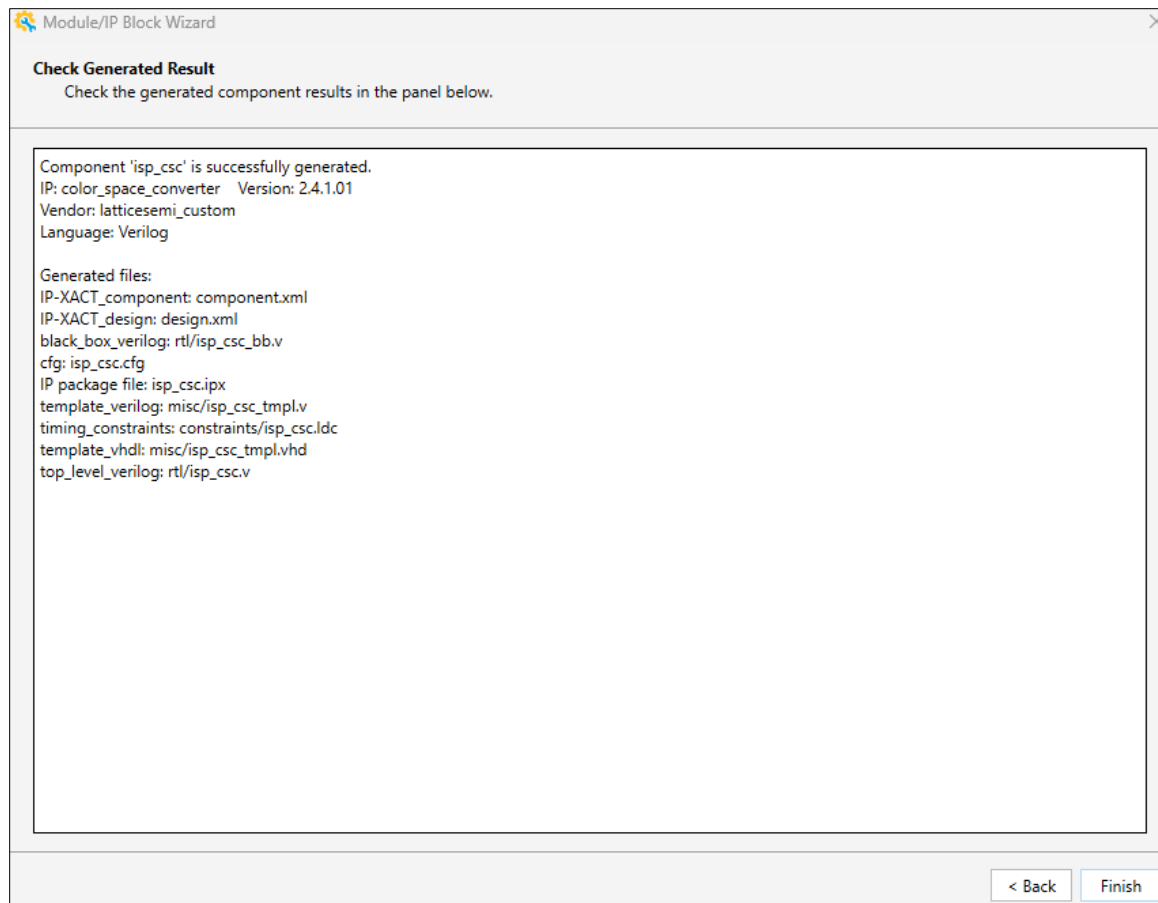

Figure 7.25. Color Space Converter IP Check Generated Result Window
4. After the generation is completed, click **Finish** in the **Check Generated Result** window (Figure 7.25).